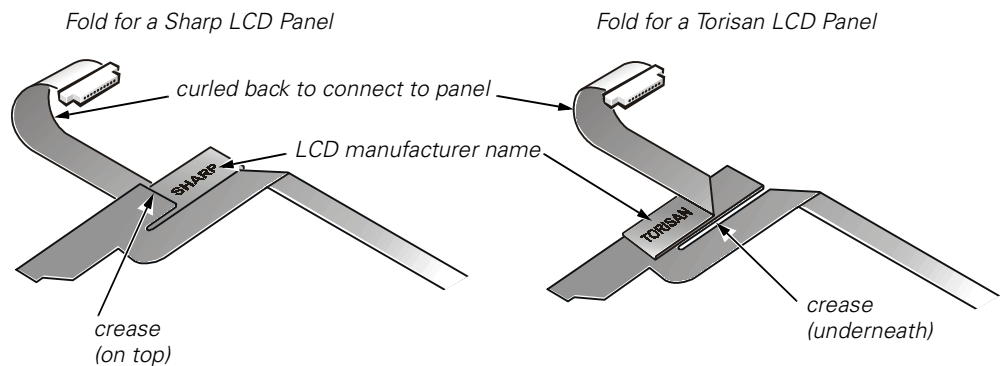

Figure 16. 12.1-Inch LCD Flex Cable
7. Fold the LCD flex cable at the crease shown in Figure 16, so the name of the LCD panel manufacturer faces up.
The LCD flex cable can connect to either panel by making one fold to the cable. The words *Torisan* and *Sharp* are printed on the cable (see Figure 16). If you are installing a Torisan LCD panel, fold the cable at the crease so the word *Torisan* is facing up. If you are installing a Sharp LCD panel, fold the cable at the crease so the word *Sharp* is facing up.
NOTICE: The LCD flex cable must be folded correctly before the cable connector can be attached to the connector on the LCD panel (see Figure 16).
The flex cable must be curled back to connect to the LCD panel (see Figure 16).